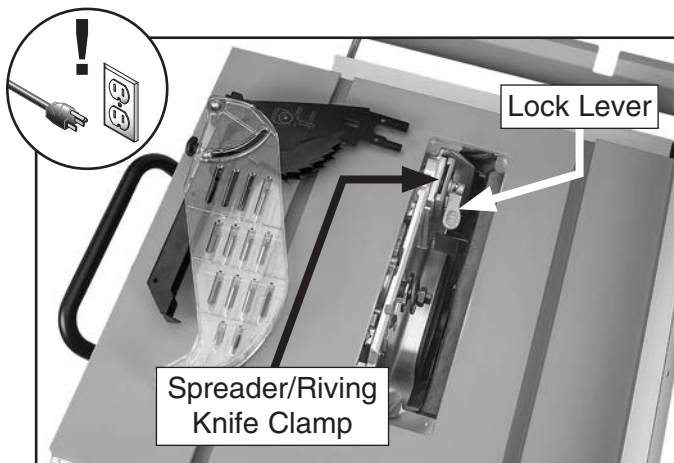

Figure 14. Location of spreader/riving knife clamp and lock lever.
3. Move lock lever up to release spreader/riving knife clamp (see **Figure 14**).